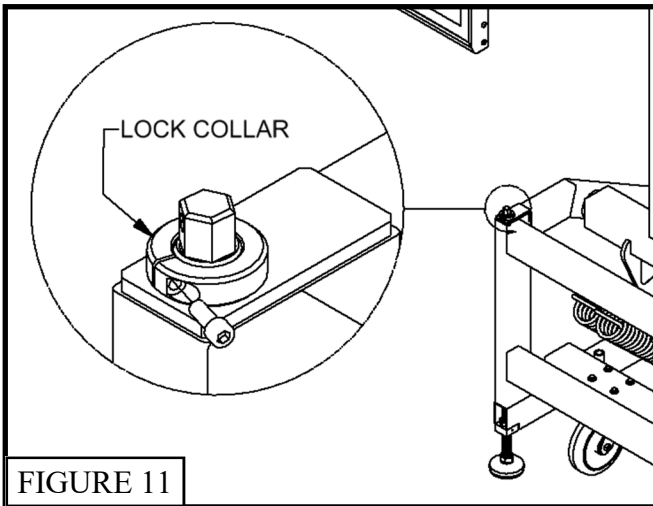

FIGURE 11
19. With the top of the *Breakaway Goal* (L) at 10', lower the lock collars preinstalled on the leveling screws until they are tight against the *Portable Base* (A). Tighten the set screws to insure easy repeat adjustment to the official 10' *Breakaway Goal* (L) height. See Figure 11.